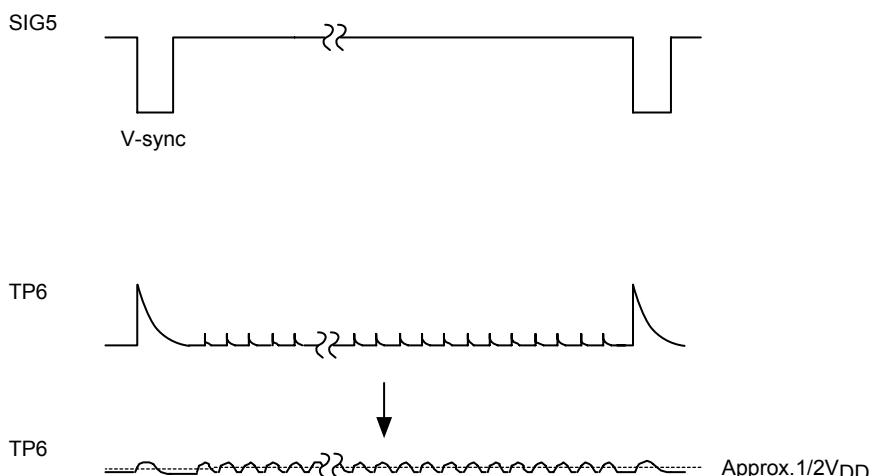

Fig.1-2 Horizontal AFC adjustment
Enter SIG5 ( $VL = 0mV$ ) to (A) and adjust VCOADJ so that the width of WL and WH becomes equal in the TP9 output waveform. (See fig. 1-2.)